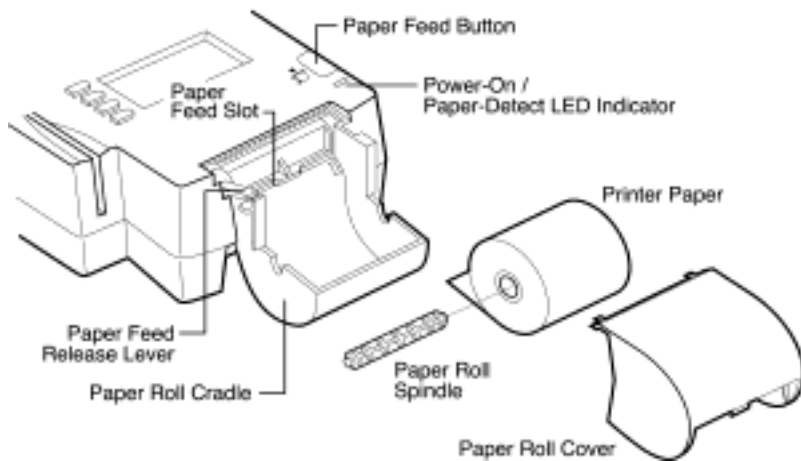

Figure 15 Thermal Printer Features
A fast, quiet thermal printer is built in to the Omni 3200. Because the printer receives power directly from the terminal, there are no additional cables to connect (see Figure 15).
4. Holding the roll with the paper feeding from the bottom of the roll, slowly guide the leading end into the paper feed slot (see Figure 15). When the sensor detects the paper, the feed mechanism starts automatically, advancing the paper into the printer. If necessary, press the paper feed button until the paper emerges from the slot below the serrated metal strip.